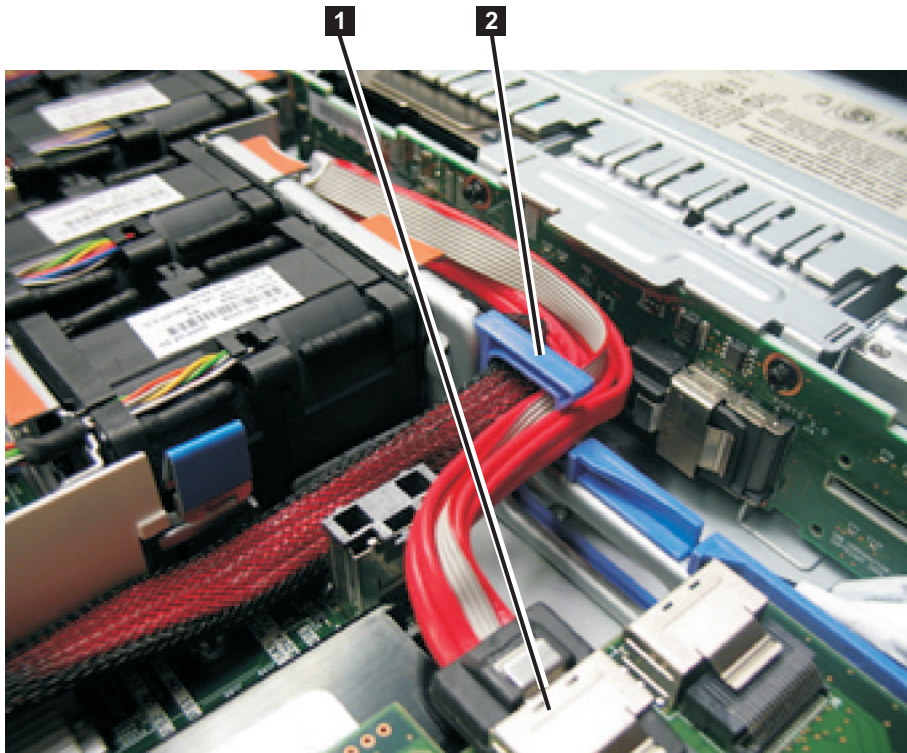

Figure 226. Boot-disk SAS cable routed through the blue bulkhead clip and connected to the SAS disk controller in the SAN Volume Controller 2145-CG8 or 2145-CF8
10. Remove the cable from the blue bulkhead clip behind the disk backplane, as shown in Figure 226 on page 272.